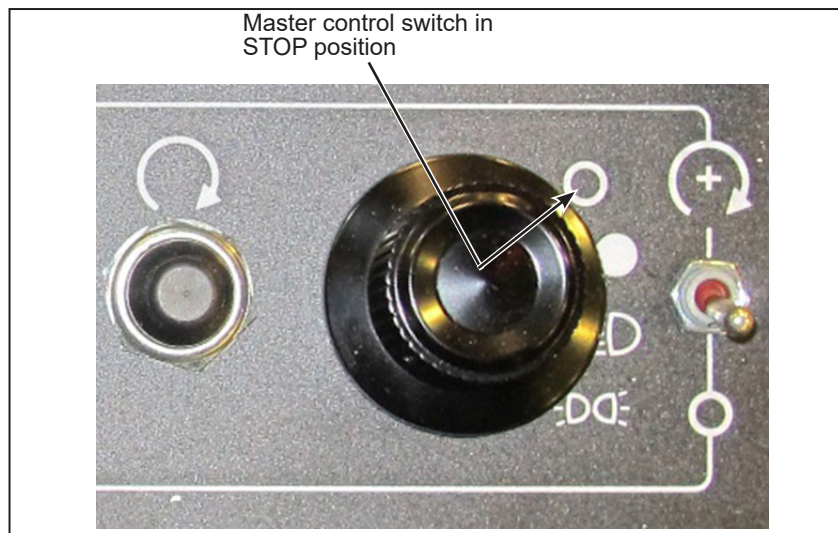

Figure 1 - Master Control Switch in STOP Position
- 1.5. Set the Master Control Switch in the STOP position (see figure 1).